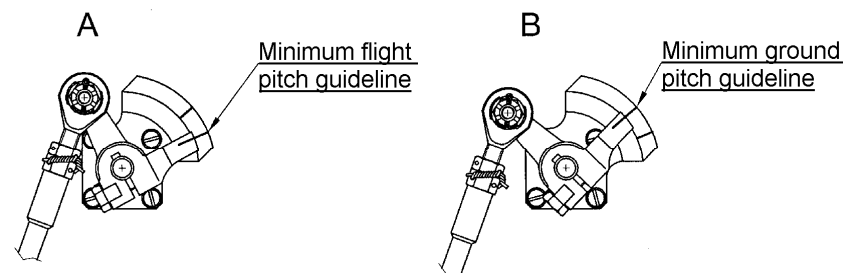

Figure 11-28 Governor LUN7815.03 - Basic adjustment check
- d) Place the engine condition lever to the ground idle stop, guideline on the cam lever must align with minimum ground pitch guideline on the governor scale (fig.11-28 B).